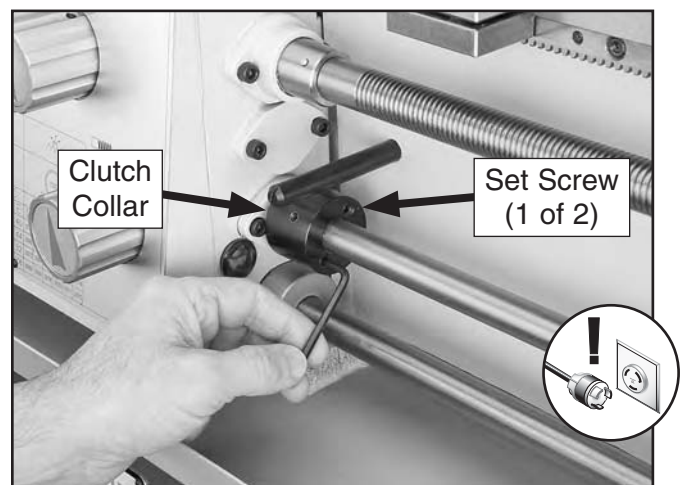

Figure 129. Adjusting feedrod clutch.
3. Rotate the feedrod to access each of the set screws on the face of the clutch collar (see **Figure 129**).